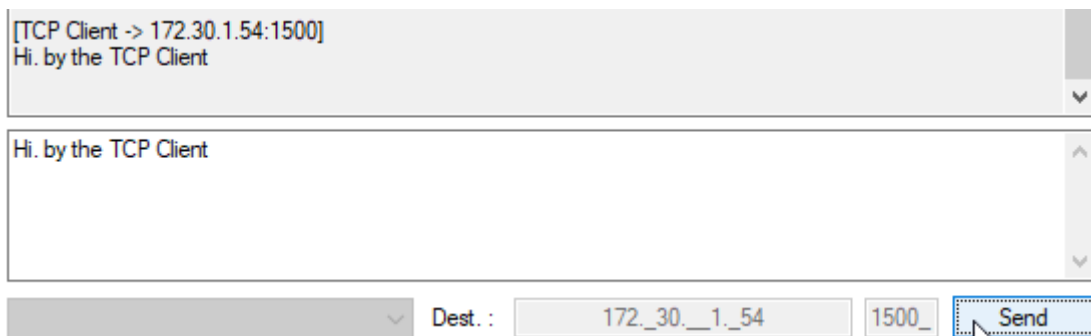

Figure 30: TCP Client Data Transfer
- **TCP Client:** Select the **TCP Client** checkbox → Type a message → Click the **Send** button (see Figure 30)